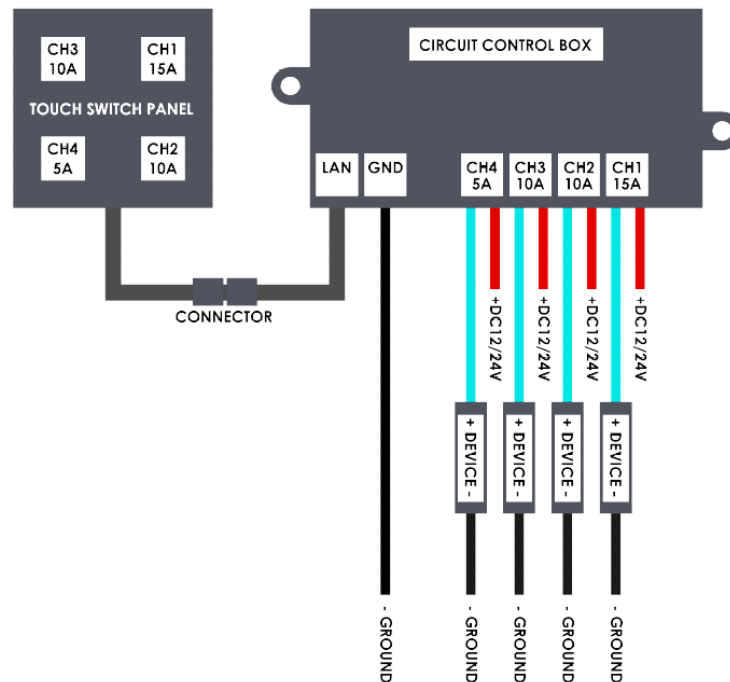

Fig. 3 Circuit Board Diagram
**Note:** Make sure devices do not overload the nominal amperages. Touch Panel indicator color turns red when overload and/or short circuit encountered. Each switch maximum amperages load showed in Fig.3. and label on Control Box top cover.